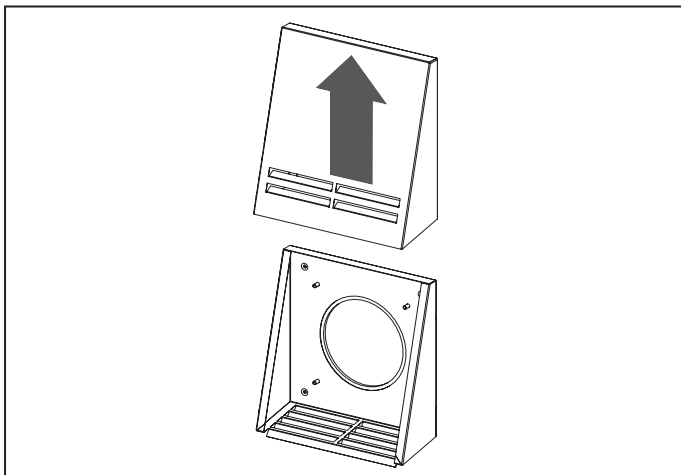

Fig. 13a.
- Fig. 13a - for VENTO Expert A50-1 Pro model. Take off the front part of the outer ventilation hood.